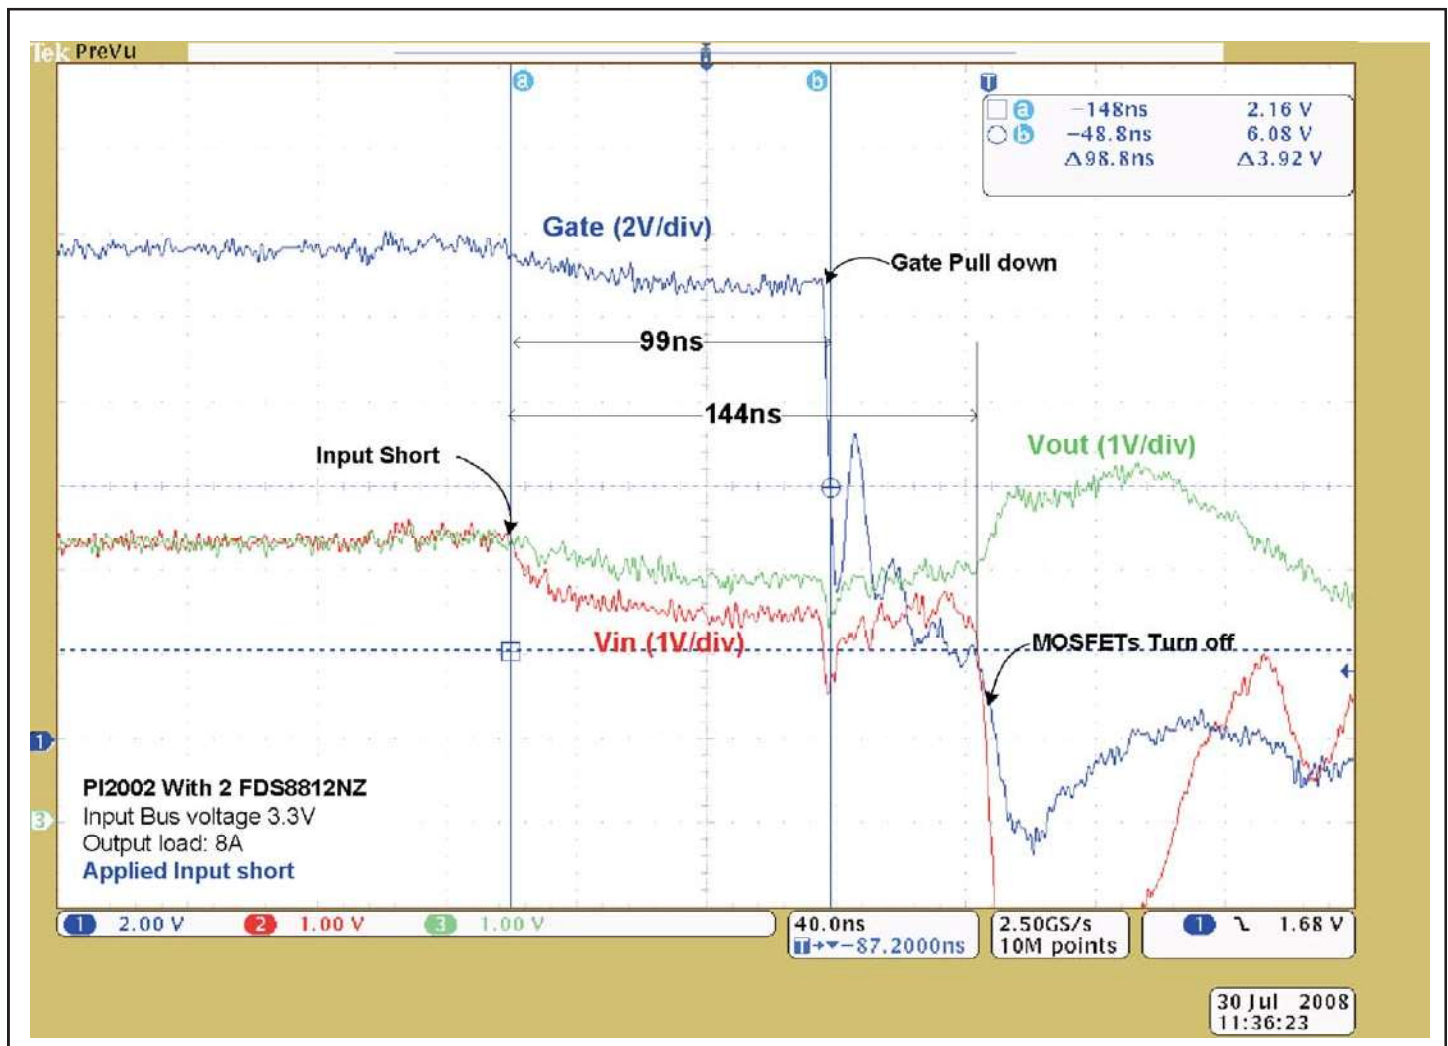

Figure 7 – Plot of PI2002 response time to reverse current detection
- 8.3 Apply a short at one of the inputs (Vin1 or Vin2). The short can be applied electronically using a MOSFET connected between Vin and Gnd or simply by connecting Vin to Gnd. Then measure the response time between when the short is applied and the MOSFETs are disconnected (or turned off). An example for PI2002 response time to an input short circuit is shown in Figure 7.